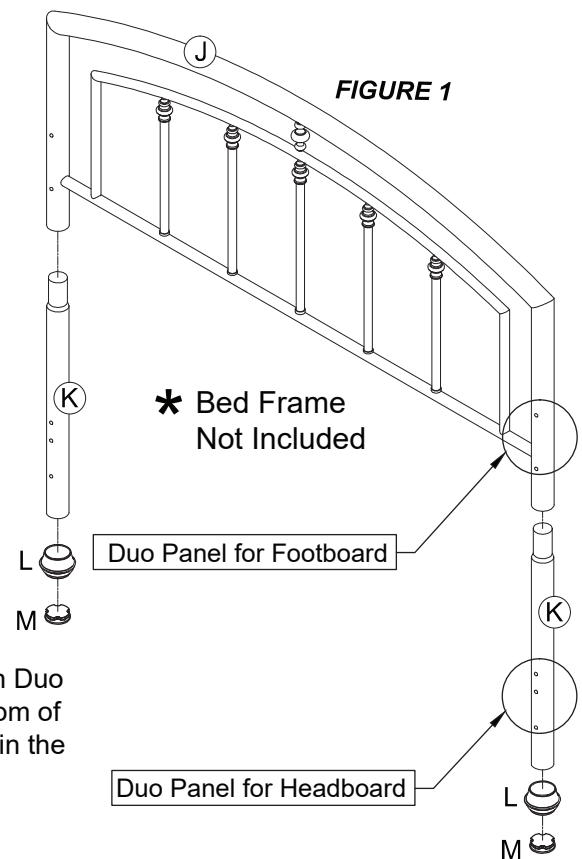

FIGURE 1
Begin assembly by first attaching Bunn Feet (J) to bottom of posts on Footboard Panel (H). Next attach Foot Glides (K) into Bunn Feet (J). See **Figures 1 and 2**.
Begin assembly by first attaching each Leg Extension (K) to each Post on Duo Panel (J) by firmly sliding into place. Also attach Bunn Foot (L) to the bottom of both Leg Extensions by inserting in place and insert each Foot Glide (M) in the bottom of each Bunn Foot. See Figure 1.
Begin assembly by first attaching each Leg Extension (K) to each Post on Duo Panel (J) by firmly sliding into place. See Figure 1.